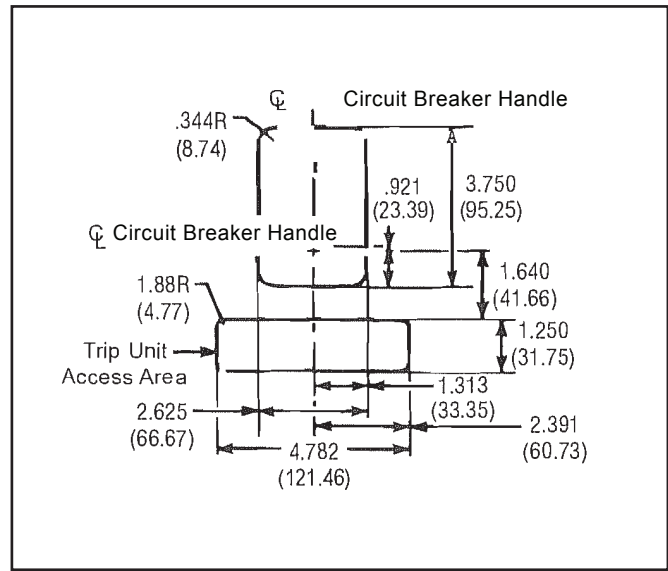
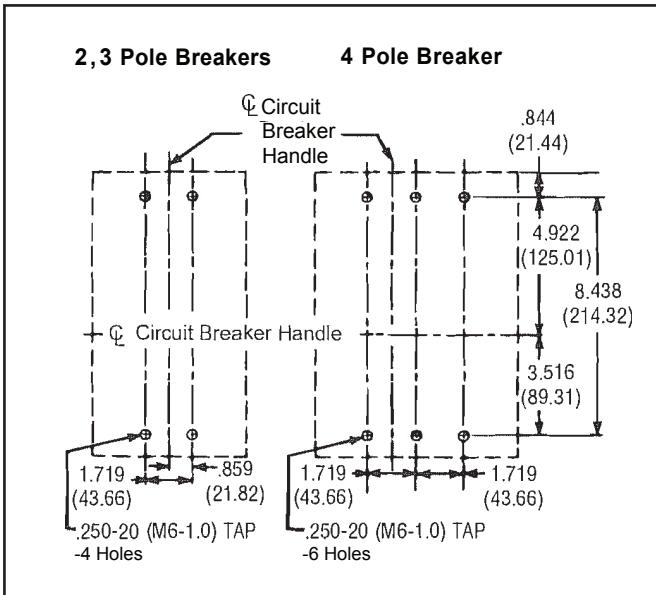

Figure 2-3 Circuit Breaker Escutcheon Cutout Dimensions for 3- and 4-Pole Circuit Breakers
Figure 2-2 Circuit Breaker Mounting Bolt Drilling Plans
- a. For individual surface mounting, drill mounting panel using the drilling plan shown in Figure 2-2. For panelboard mounting, only load end support mounting holes are required. For deadfront cover applications, cut out cover to correct escutcheon dimensions, see Figure 2-3. Make sure accessory wiring is accessible when the circuit breaker is mounted.